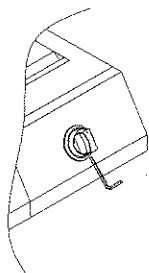

Figure 18
5. Secure knob to head of side valve with the provided Allen wrench. (Fig.18)